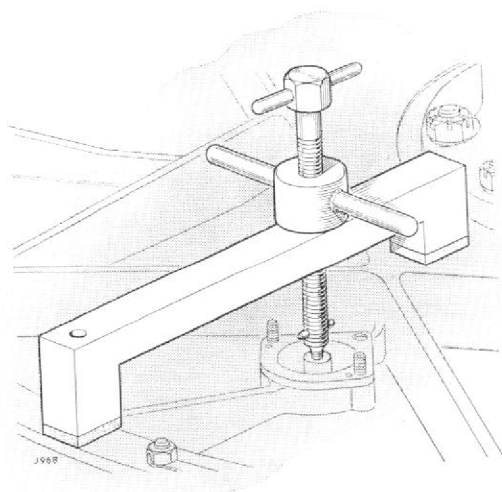

Fig. 21. Removing an inspection cover from the sealing plate, using extractor T.76563.
2. Place extractor T.76563 in position so that the main bar straddles the inspection cover with the ends registering on the inner and outer machined surfaces of the sealing plate, Fig. 21.
- The legs of the extractor are not of equal length; it is important to ensure that the bridge is correctly positioned as shown in Fig. 21; serious damage to both the extractor and the inspection cover will occur if these instructions are ignored.*